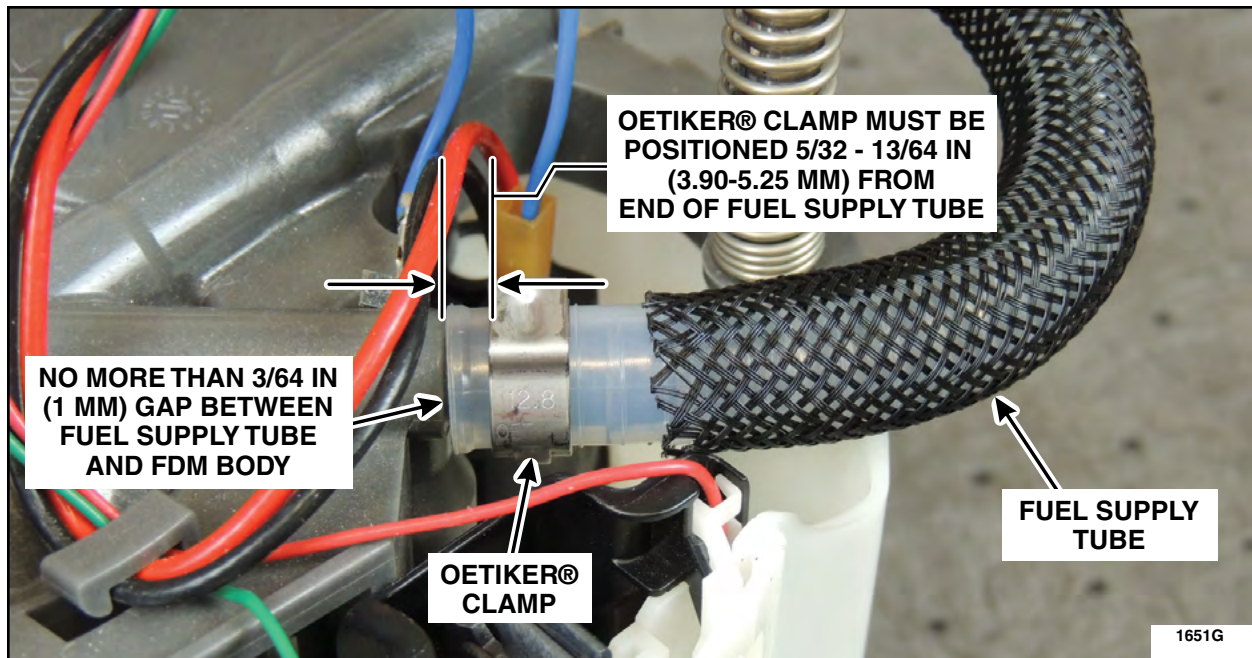

FIGURE 9
9. Connect the *new* fuel supply tube to the supply port and tighten the Oetiker® clamp using Oetiker® clamp pliers. See Figure 9.